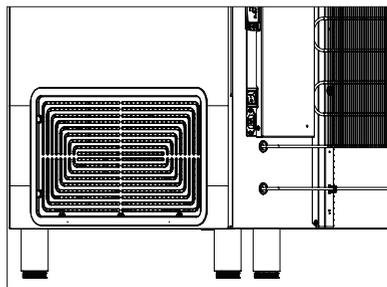

fig. 10
**IMPORTANT!** There must be free access to the ventilation grille (fig. 10).